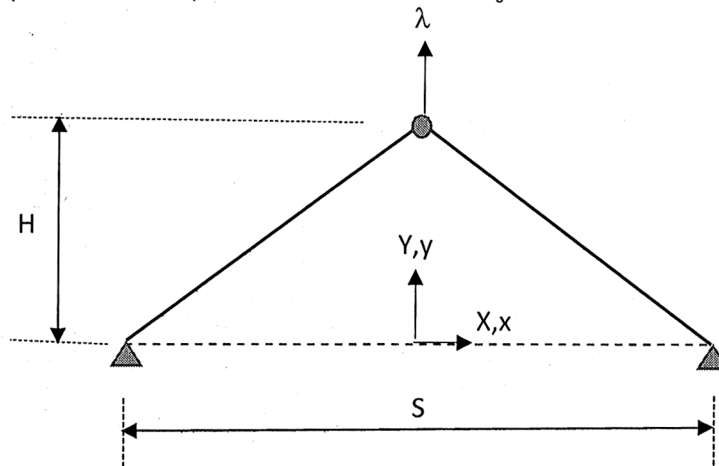

Figure 1
| 2.               | <p>a) Derive the nonlinear stiffness matrix of one-dimensional three-noded bar element.</p> <p>b) Use above-mentioned element for the solution of this problem: An one dimensional bar of circular cross-section is fixed at upper end and free at lower end. The diameter of its circular cross-section is 7mm and its length is 950mm. It is subjected to a vertically downward concentrated force of 18kN. Calculate the end deflection, strain and stress developed in it. The material behaviour is shown in Fig.1. Apply the load in two steps (i.e. 60% and 40% of total). Perform maximum three iterations in each step.</p>  | 5+25 =30                  |
|                  |  <p style="text-align: center;">Fig.1</p>   |                               |
Q2. Obtain the internal force vector and hence the non-linear stiffness matrix of the von Mises truss shown in Figure 1. Also identify the critical points along the  $\lambda$  - H curve under symmetric deformation (Assume  $S=2$ ,  $E = 1$  and  $A_0 = 1$  for plotting the results). (25)